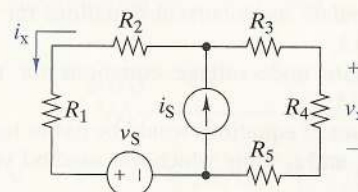

FIGURE P3-12
- 3-12 (a) Formulate mesh-current equations for the circuit in Figure P3-12.